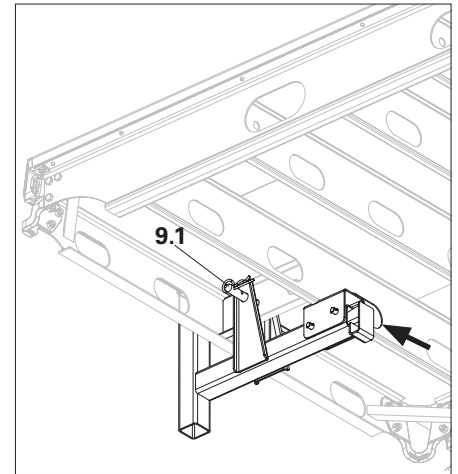
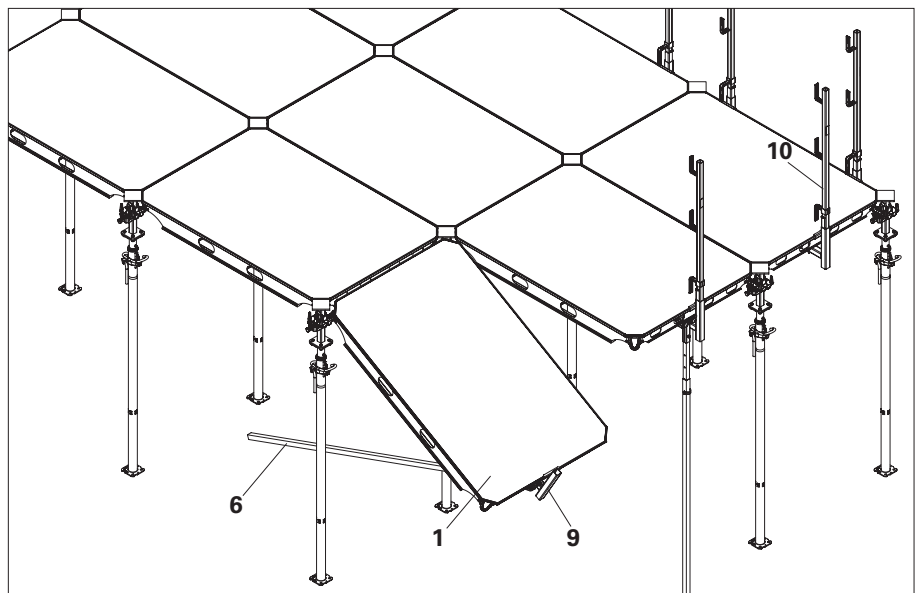
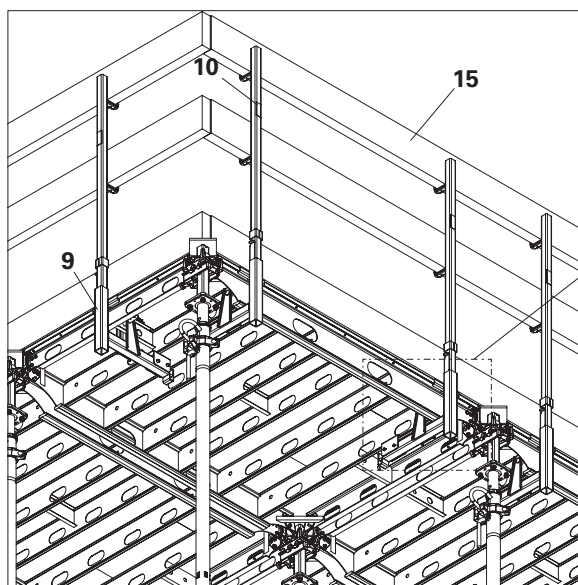

Fig. A9.02
Fig. A9.03
Fig. A9.04
3. To tighten the Guardrail holder, hammer its wedge as shown in arrow mark. (Fig. A9.02)
4. Swing the panel ADP (1) along with Guardrail holder (9) upwards using Shuttering Aid (6).
5. Insert the Guardrail post HSGP-2 (10) into the Guardrail holder (9) from top. (Fig. A9.03)
- Step on top of formwork to insert Guardrail post HSGP-2 (10) only after the system is firmly secured.
6. Insert Guardrail boards (15) and secure with nails. (Fig. A9.04)